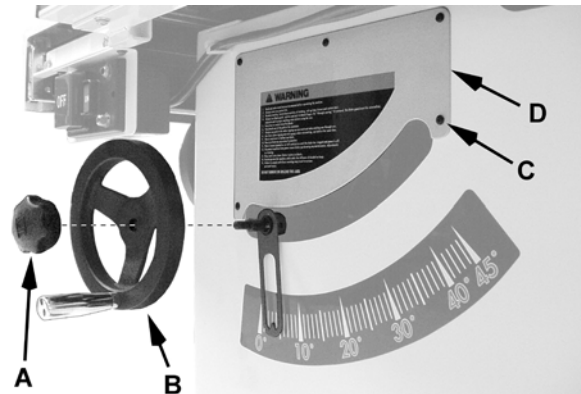

Figure 45
5. Referring to Figure 45, remove the front panel (D) by unscrewing the lock knob (A), pulling off the handwheel (B) and removing five pan head screws (C) that hold the front panel.